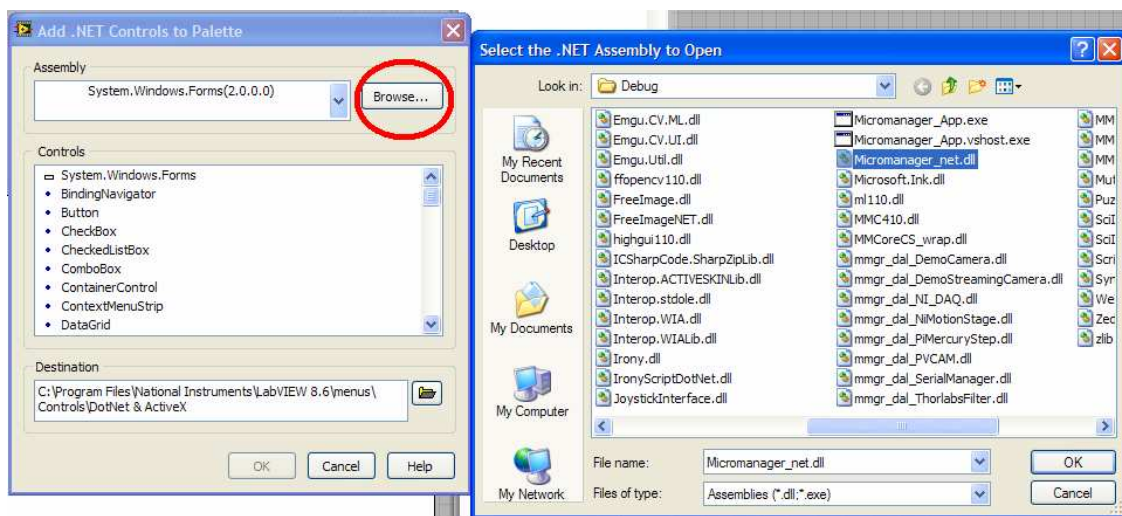

Figure 2.
**Tools/Import/.Net Control to Palette** on the upper menu (This menu sequence changes in some versions of Labview, but there is always an option to import a .Net control into Labview in the tools menu). This will bring up a dialog as show in figure 2